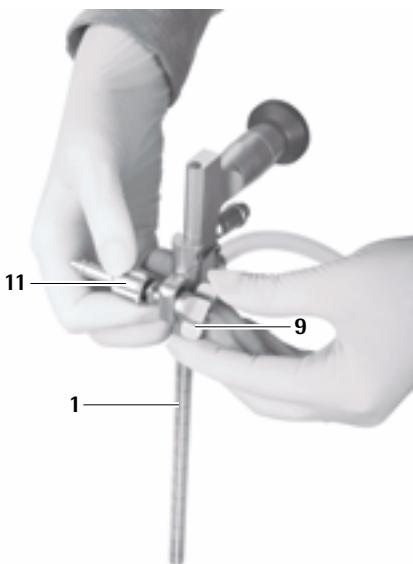

Fig. 19
- ▶ Screw on the wing nut 10 until the holding arm adapter 11 is fixed in place, see Fig. 19.